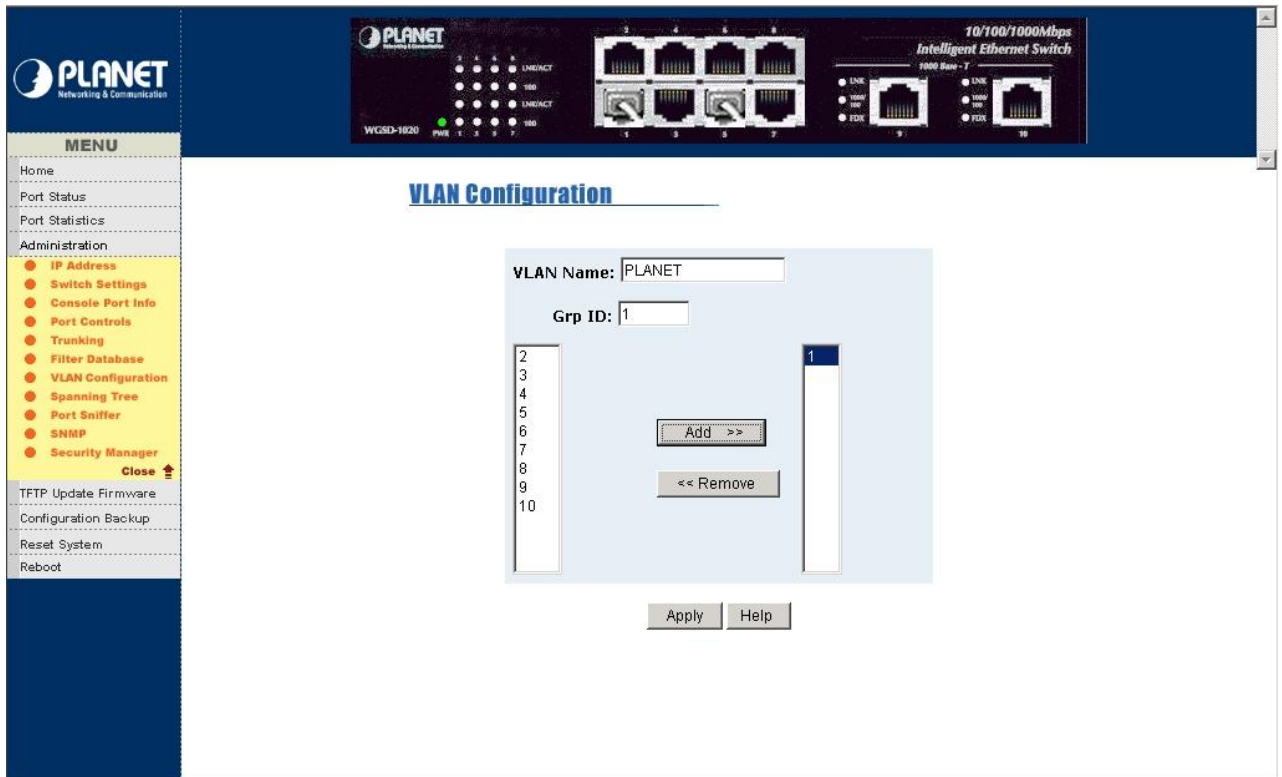

Figure 5-31 WGSD-1020 Port Based VLAN setting Web Page screen
1. Click **“Add”** to create a new VLAN group. The following screen in Figure 5-31 appears.